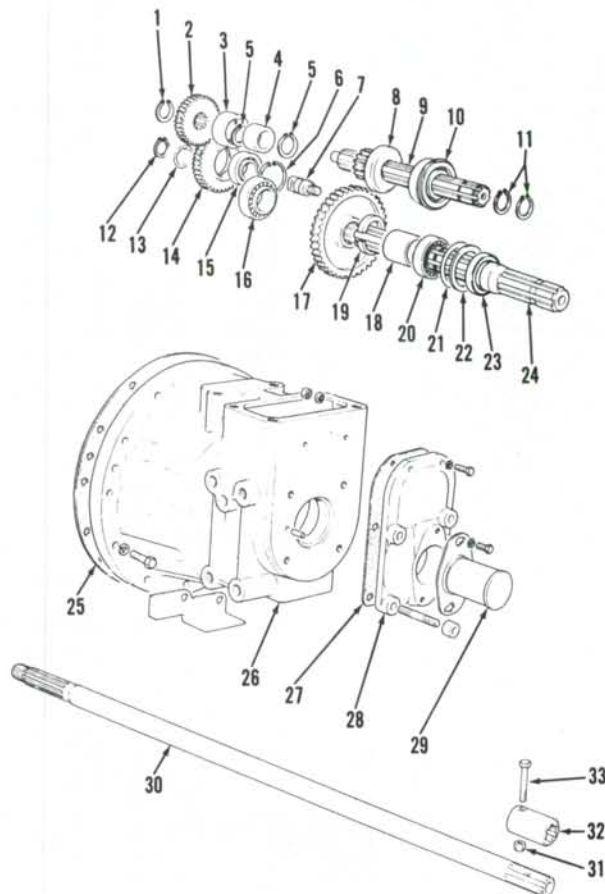

Fig. 228—Exploded view of single speed (540 rpm) pto assembly used on some Models 1190, 1194, 1290 and 1294.
297. Output shaft oil seal (23—Fig. 228) may be renewed on single speed and multispeed models without removing and disassembling pto housing. Remove end plate (28) and renew oil seal. Lip of seal must face inward.
298. **DISASSEMBLY.** Single speed pto assembly is shown in Fig. 228 and multispeed pto assembly is shown in Fig. 229. Note that sliding gears (8) are different and spacer (18—Fig. 228) is replaced by gear (18—Fig. 229) on multispeed units. Service procedures are the same for either assembly.
Remove input shaft rear snap ring (11—Fig. 228 or 229), then drive input shaft (9) forward out of rear bearing. Remove inner snap ring (11) and sliding gear (8), then withdraw input shaft from housing. Drive output shaft (24) rearward out of front bearing and remove shaft and gears from housing.
If idler shaft (7—Fig. 228 or 229) is being renewed, apply Loctite 271 to threads of shaft. Install shaft and tighten to 95-108 N·m (70-80 ft.-lbs.) torque, then stake shaft threads inside the housing in three locations.
Install idler gear (14—Fig. 228 or 229) with bearing on idler shaft. Install snap ring (12) without shims (13). Using a dial indicator, measure idler gear end play. Remove snap ring and install a shim pack equal to measured end play minus 0.10 mm (0.004 inch) to provide
Fig. 229—Exploded view of multispeed pto assembly used on some Models 1190, 1194, 1290 and 1294. Pto unit is identical to single speed pto (Fig. 228) except for speed change gear (8) and high range output gear (17).